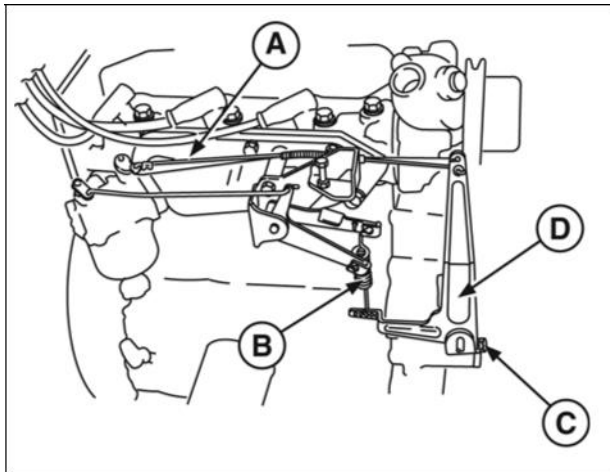

Figure 6
2. Remove governor link spring (A, Figure 6) and governor link from carburetor.
3. Remove governor spring from governor lever (B).
4. Loosen nut (C) and remove governor lever from governor shaft.